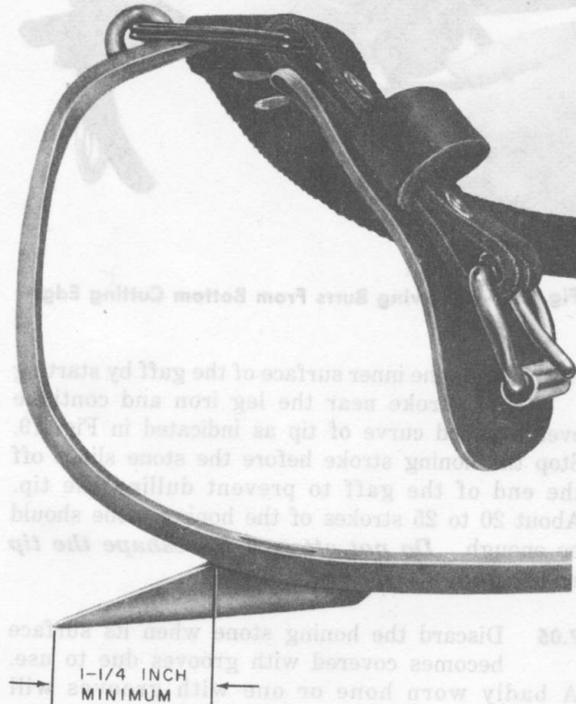

Fig. 21—Gaff Sharpened to Minimum Length
7.07 When climbers require sharpening and the desired sharpness to pass the cutout test cannot be obtained by honing (7.02 through 7.05), the craftsman should exchange them for a pair of factory sharpened climbers. Remove the E climber foot strap (2.10), the B climber straps (2.11), pads, and sleeves and equip the climbers to be returned with gaff guards. Permanently attached foot straps should remain on the returned climbers. The solid ring will then be replaced with a split ring. Tape or otherwise tie them together. Figure 21 illustrates a climber that has been machine sharpened a number of times to the *minimum length that shall be used*.